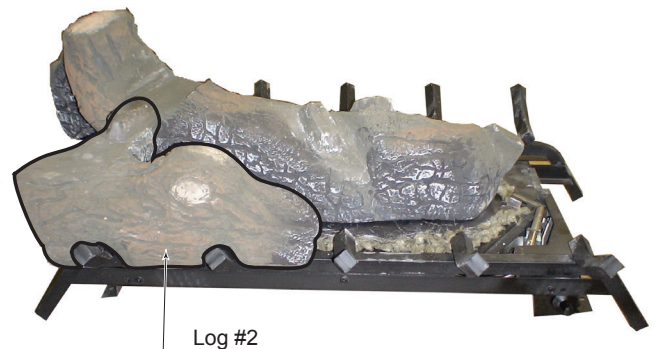

Figure 2 - Place Log #2
2. Place log #2 on left grate tines by aligning the 'V' notches in the log with grate tines. The groove on the bottom of the log should be firmly seated on the grate bar. *Figure 2*